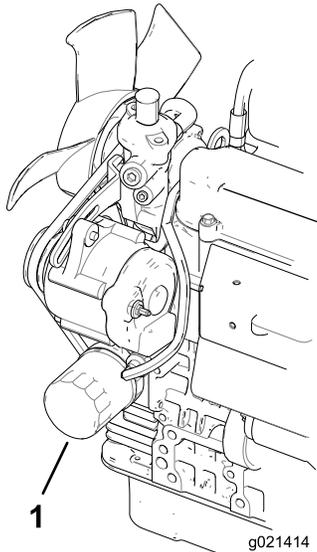

Figure 47
2. Remove the oil filter (Figure 47). Apply a light coat of clean oil to the new filter seal before screwing it on. **Do not overtighten.**